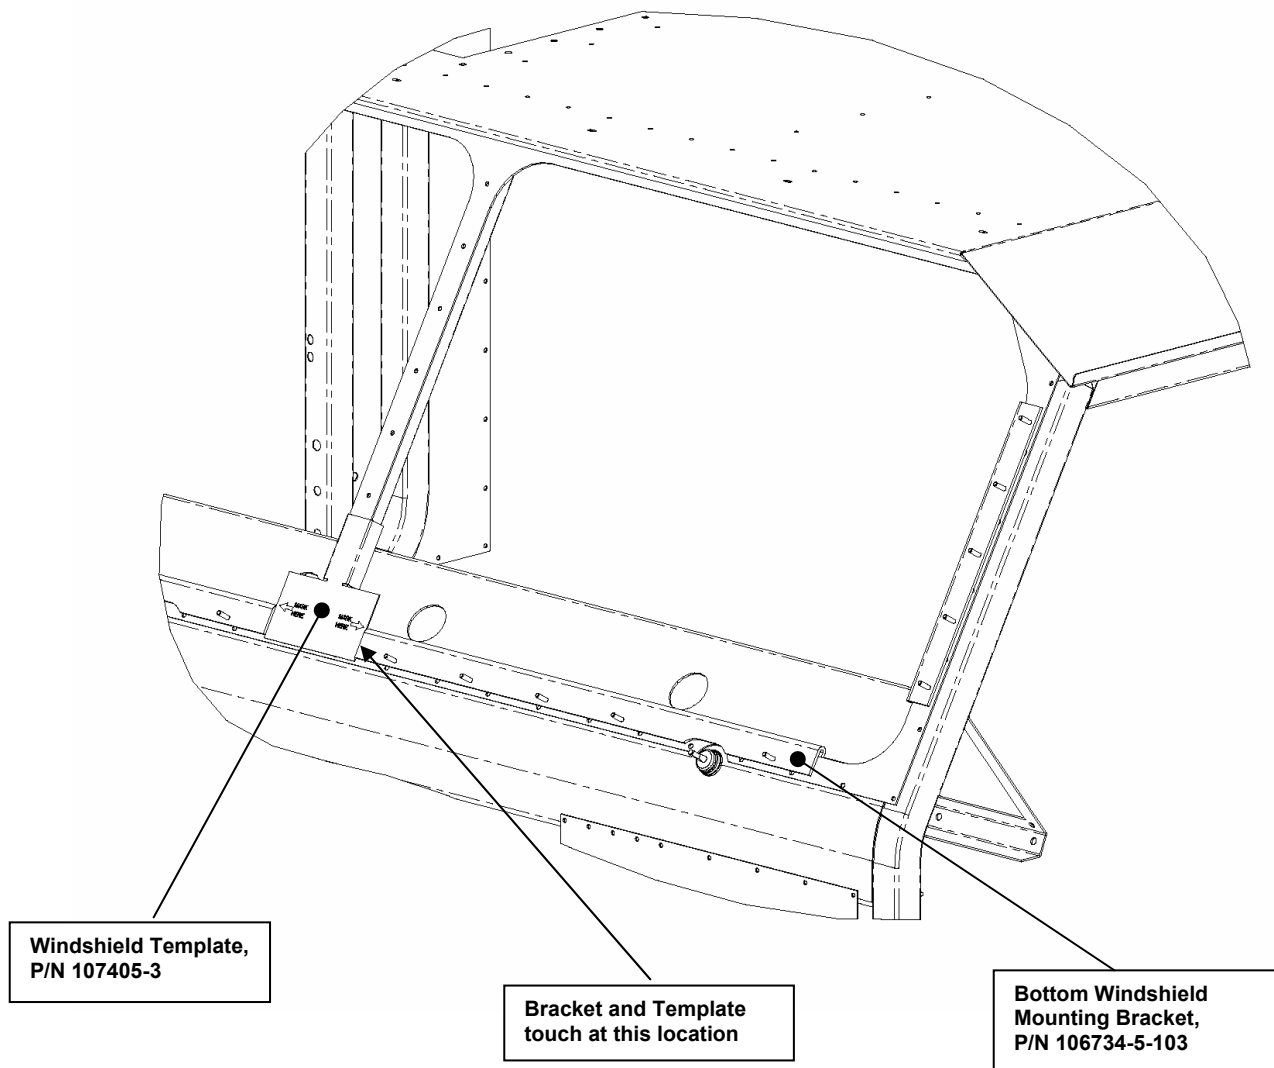

Figure 16. Windshield Bracket, Bottom Mounting.
- d) Place the Windshield Template (P/N 107405-3) on the vehicle, as shown in Figure 16. Place the Windshield Bracket (P/N 106734-5-103) against the Windshield Template, as shown in Figure 16. Tighten the bolts on both ends of the Windshield Bracket. Do not tighten all of the bolts at this time, as adjustment may be required in the next steps. Using the same Template, install the other Windshield Bracket on the opposite side of the window frame. Remove the Template from the vehicle when complete.